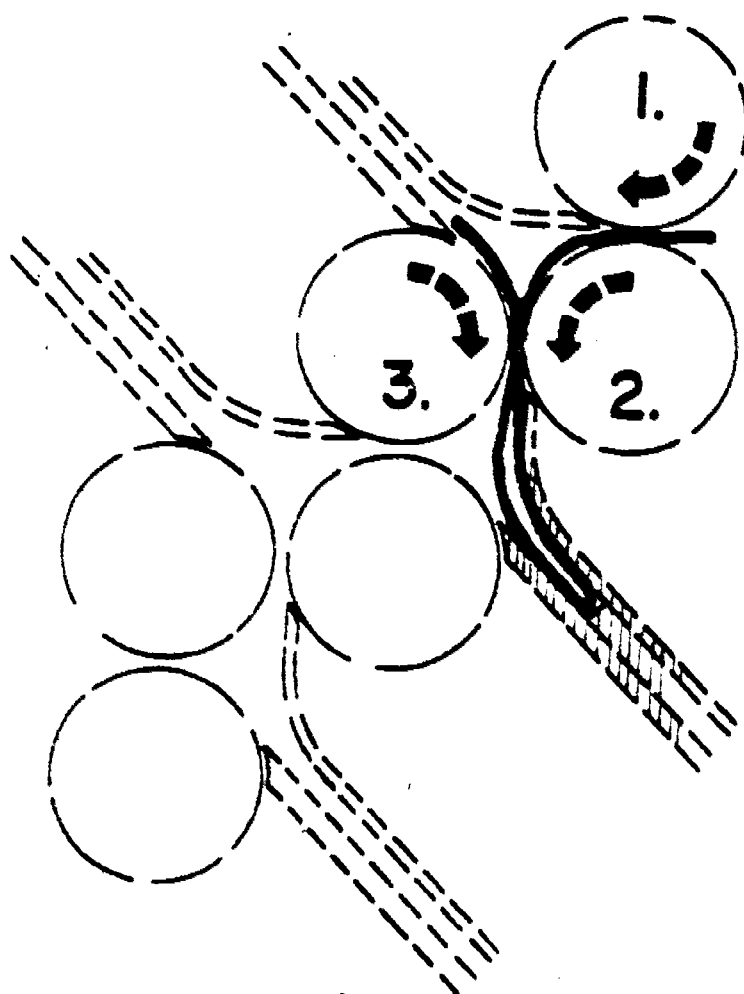
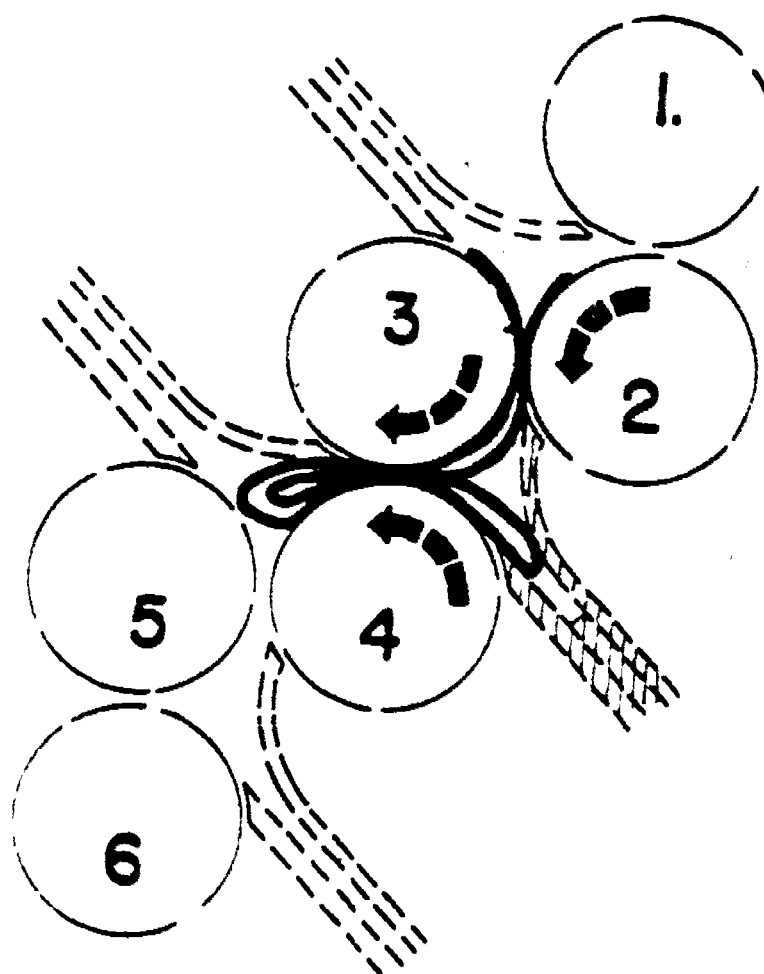

Figure 9-5. Step 3: The folded sheet is carried into fold plate number 2.
Figure 9-6. Step 4: The twice-folded sheet buckles between the third and fourth rollers.
c. *Step 3.* If according to imposition requirements a second fold is to be made, using fold plate number 2, the once folded sheet is driven by the second and third rollers into the Number 2 fold plate, the deflector having been raised, until the folded edge of the sheet strikes the preset Number 2 fold plate gage (fig. 9-5).
sheet at the required second fold line. Note that in steps 3 and 4 the second and third rollers serve as drive rollers to advance the sheet into fold plate number 2; the third roller then operates with the fourth as a folding roller for fold plate number 2 (fig. 9-5). If a third fold is to be made in a section equipped with three fold plates, the twice folded sheet is then driven by the third and fourth rollers into the third fold plate, its deflector having been raised. As in the previous folding operation, the sheet strikes the preset gage. This buckles the sheet and draws it between the fourth and fifth rollers which fold the sheet at the required third fold line. If the third fold was made in a section in which provision has been made for adding a fourth fold plate, the sheet will then be advanced by the fourth and fifth rollers until it strikes a removable deflecting plate (not shown in fig. 9-6) which directs the sheet in between the fifth and sixth rollers; the deflecting plate is easily removed when the fourth fold plate is added. The fifth and sixth rollers then advance the sheet to the slitter shafts.